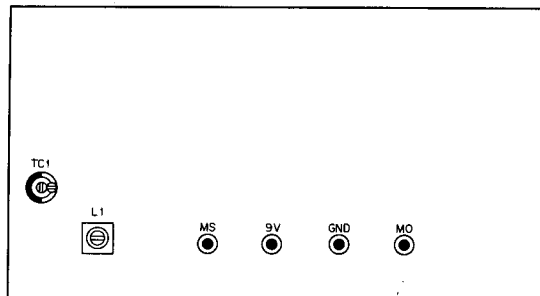

Fig. 29 MARKER unit
- 2) Set the FUNCTION switch to CAL 25 kHz and adjust TC1 in the marker unit for 100,000 Hz $\pm$ 1 Hz (refer to Fig. 29).